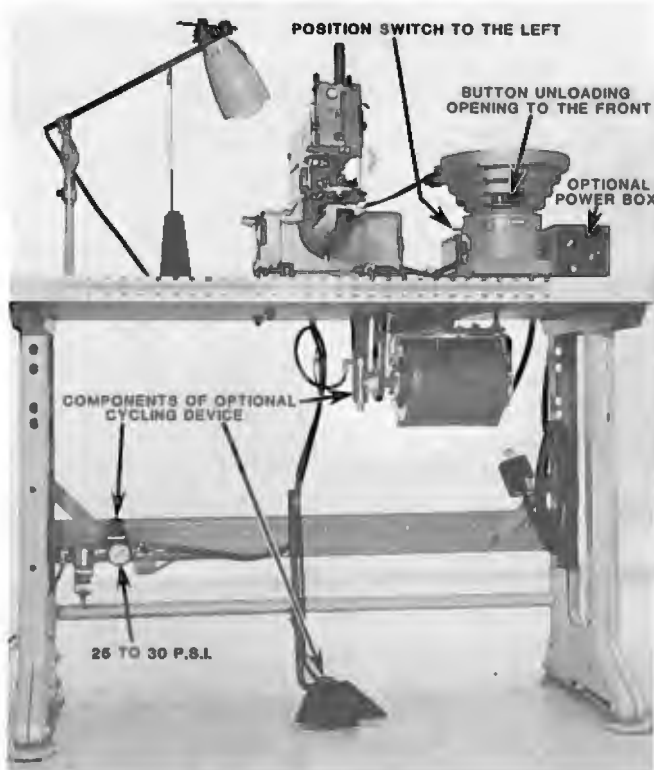
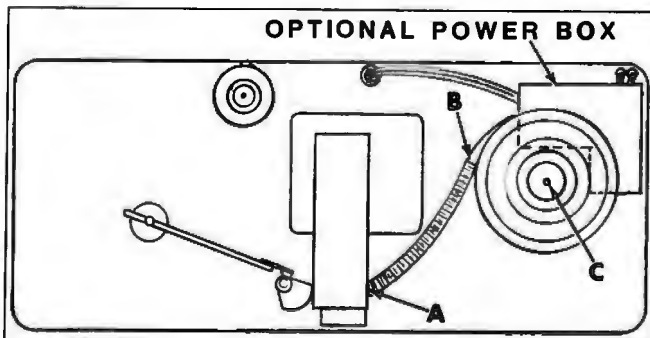
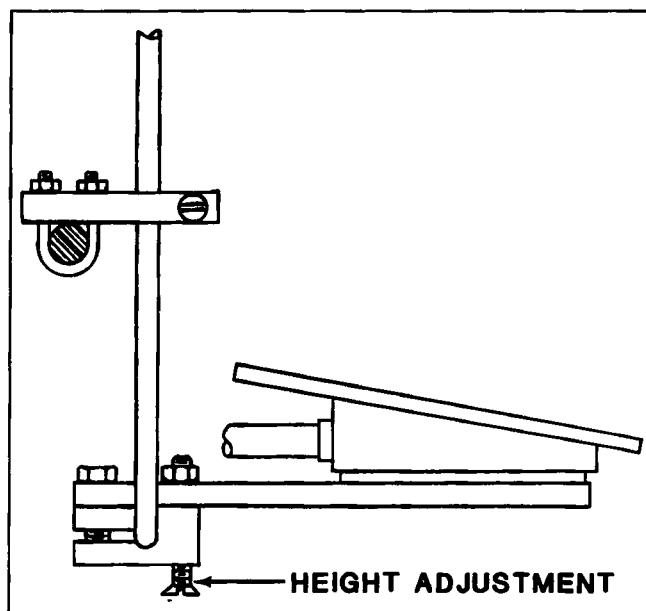

Fig. 5
Fig. 6
Fig. 9
Place vibrator base onto Isolators placed in holes provided in the tableboard (Fig. 5), position switch and control knob to left facing the machine.
Assemble the button bowl to the vibrator base using screw furnished (C, Fig. 6). Position bowl so that the button unloading opening faces toward the front (Fig. 5).
Mount the button guide track to the bowl and to the button clamp assembly on the machine (Points A and B, Fig. 6).
Mount the power box to the right rear corner of the tableboard in the holes provided (Fig. 6).
- Mount the power box to the right rear corner of the tableboard in the holes provided (See Fig. 5).
- Assemble air filter, regulator and solenoid valve as shown (Fig. 5). Set regulator so air pressure is 25 to 30 PSI.
- Assemble treadle (Fig. 9) and mount on the treadle rod as shown (Fig. 5). Note the treadle rod is located on rear of stand base approximately 6 inches (152.4 mm) up from floor. Adjust pedal height adjustment screw (Fig. 9) so operator is comfortable.